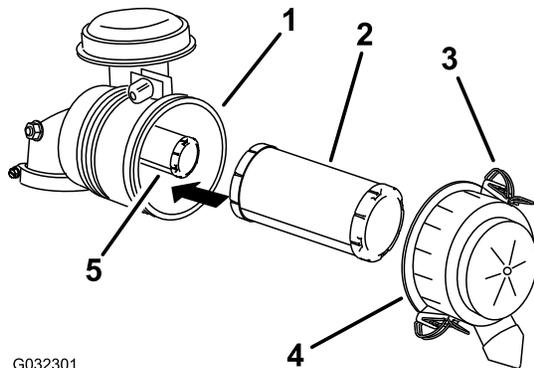

Figure 31
3. Release the latches on the air cleaner and pull the air-cleaner cover off the air-cleaner body (Figure 31).
5. Gently slide the primary filter out of the air-cleaner body (Figure 31).
2. If you are replacing the safety filter, carefully slide it into the filter body (Figure 31).
3. Carefully slide the primary filter over the safety filter (Figure 31).
4. Install the air-cleaner cover with the side indicated as **up** facing upward and secure the latches (Figure 31).